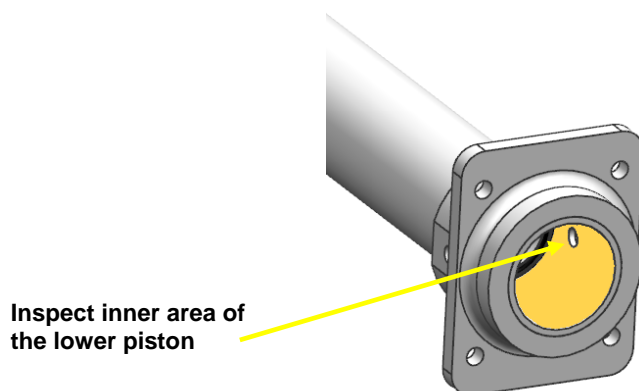

Figure 4-4: Lower Piston Inspection
- b) If removed, the inner edges of the lower piston, where the lower fork bolt passes through. Refer to **Figure 4-4**. Dress out any sharp edges using an emery cloth.